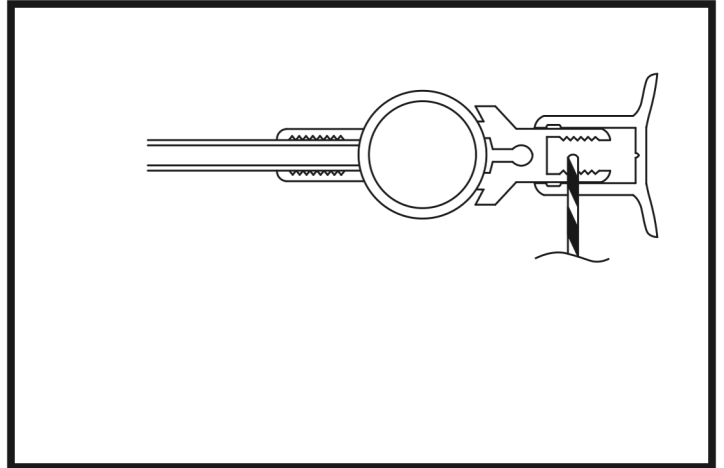

Figure 7
14. Begin by drilling the top hole, going through both the hinge profile and the hinge. Drill the holes carefully so that the drill only passes through one half of the profiles, not the entire product. (Figure 7)